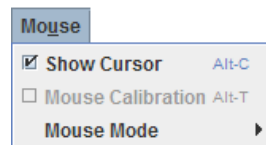
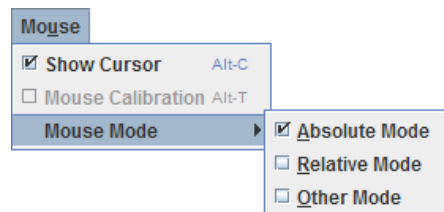

Figure 49: Remote Console Mouse Menu on EPSPD Platforms Based on Intel® Xeon® Processor E5 4600/2600/2400/1600/1400 Product Families
Figure 50: Remote Console Mouse Menu - Mode selection on EPSPD Platforms Based on Intel® Xeon® Processor E5 4600/2600/2400/1600/1400 Product Families
- **Mouse Mode.** This option is only available on EPSPD Platforms Based on Intel® Xeon® Processor E5-4600/2600/2400/1600/1400 Product Families. See Figure 49. This allows you to select the mouse mode being used. You can select Absolute, Relative, or Other as shown in Figure 50. For a description of these modes, see section 7.3.9. Note that